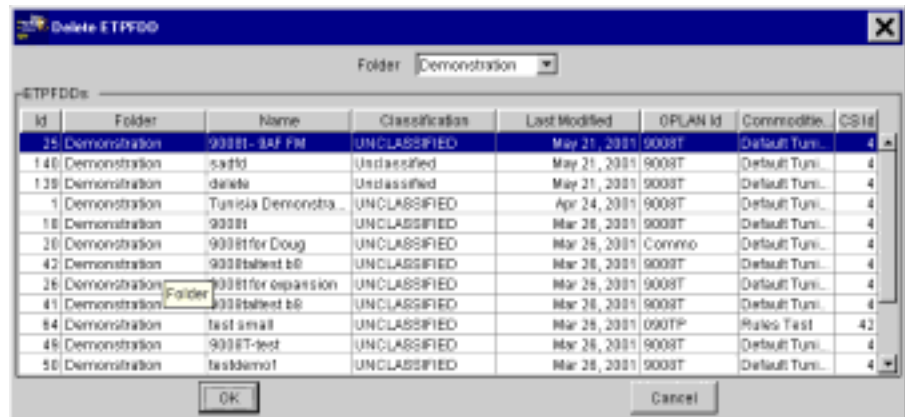

Figure 5.14 Delete ETPFDD Window
1. On the ETEdit (main) window, on the File menu, click Delete. The Delete ETPFDD window opens (Figure 5.14), and the line identifying the loaded ETPFDD is highlighted.